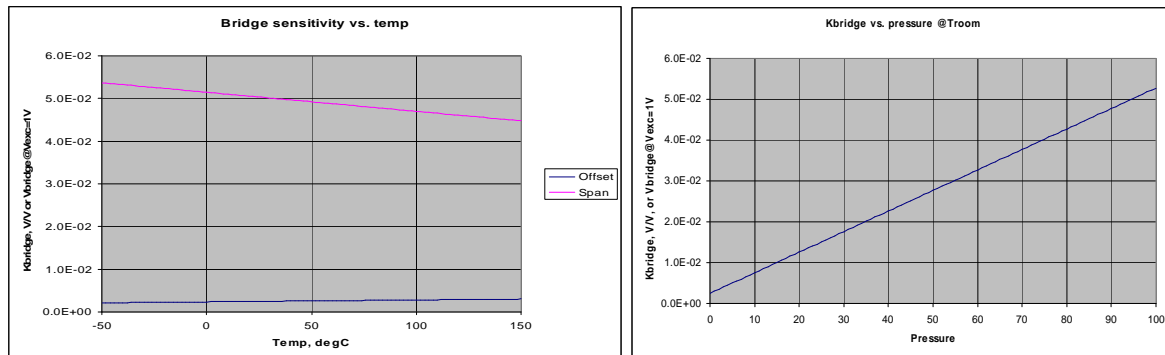

Figure 34: Approximated Sensor Curves
Upon completion of the measurements the fitted sensor function is displayed on two plots located on this worksheet (see Figure 34).
- 8) Verify that the resulting fitted sensor approximation (Figure 34) are in agreement with the characterization data.